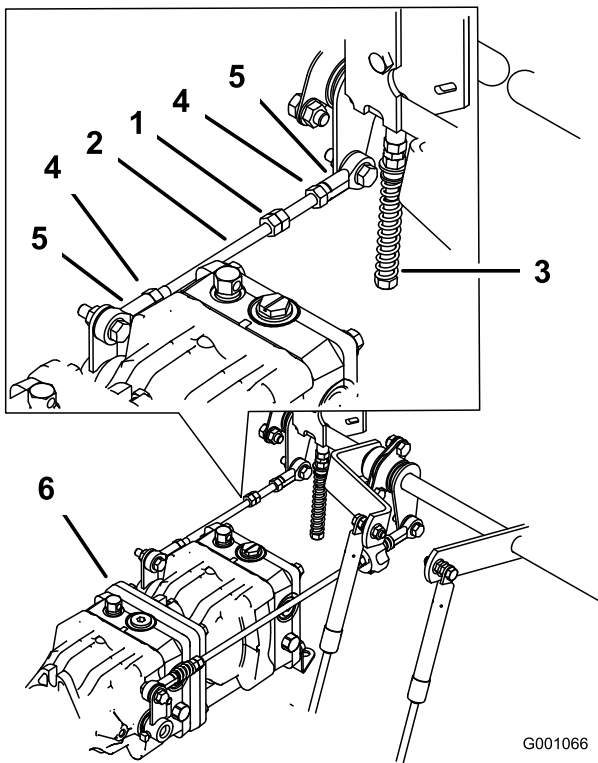

Figure 78
1. Loosen the locknuts at the ball joints on the pump control rod (Figure 78).
3. Adjust the pump rod length by rotating double nuts on rod, in the appropriate direction, until wheel is still or slightly creeps in reverse (Figure 78).
6. Tighten the locknuts at the ball joints (Figure 78).